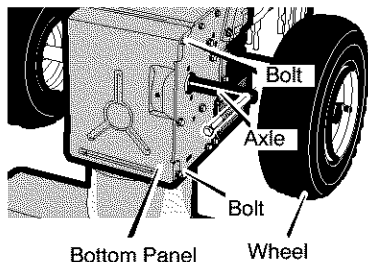

Figure 31
4. Remove the fasteners that secure the right **wheel**. Remove the **right wheel** from the **axle** (see Figure 31)
- Install the **bottom panel** (see Figure 31).